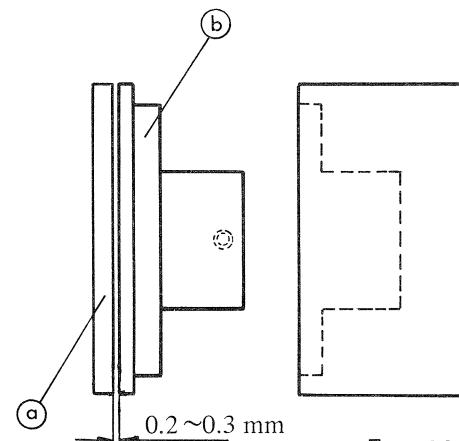

Fig.13
1. Replace ⑯ and ㉑ should they be found to have scratch or/and deformation.
2. If the rubber section of ⑯ is worn out or has oil adhered to it, wipe off the oil or replace the rubber section.
3. Carry out fine adjustment the space between ⑨ Ⓐ and ⑨ Ⓑ in Fig. 13 is 0.2 ~ 0.3 mm (approximately equivalent to 2 pieces of film).